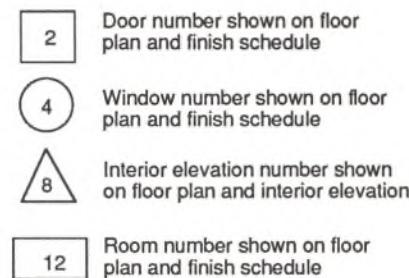

Fig. 20.5 Symbols used on plans and schedules.
3. Fig. 20.5 shows possible choices for window and door symbols that can be placed on the floor plan close to each window or door, and keyed to a window or door schedule.